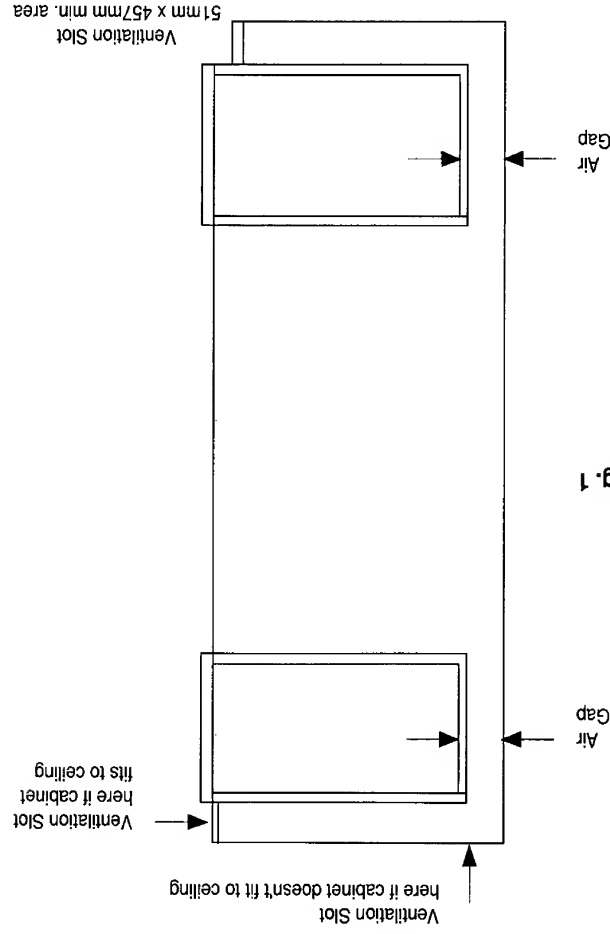

Fig. 1
- An air gap of 50 mm minimum must be provided at the rear of any top or bottom cupboards or shelves. (See Fig. 1 page 6.)
where it is intended to fit cupboards above the oven unit to ceiling height it is essential that the warmed air is exhausted through the front of the cabinet Fig. 1. (See page 6.)